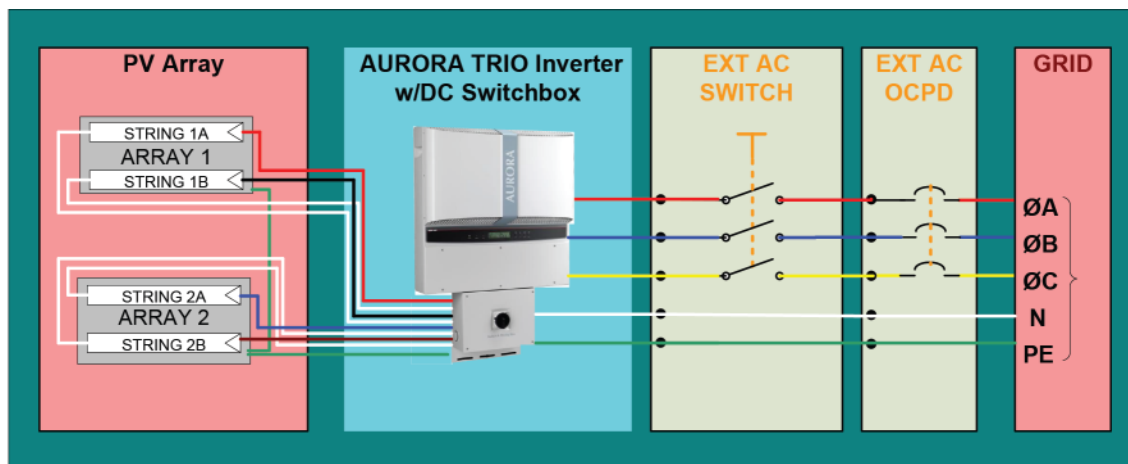

Figure 2:05: Electrical Connection Diagram PVI-10/12-I-OUTD-S-US/CAN-XXX-NG
1. Refer to the photo of Figure 2:03 and locate the designated entry locations for the conduits from the DC array and to the AC grid.